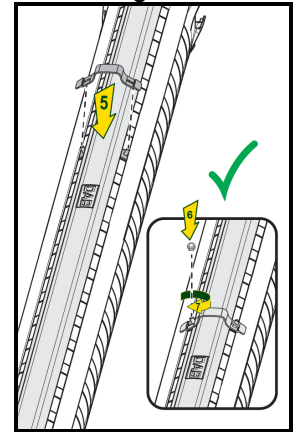

Fig.3
4. Secure the closing bracket (Fig3).
5. Tighten the self-locking nuts (Fig3).